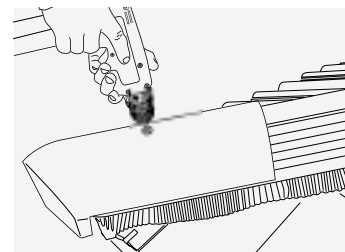

Fig. 10 – Fixing Block End Hip tile
- 9 Fit a purpose designed Block End Hip tile tight against eaves tiles and trim the Block End if required. Fix Block End Hip tile through HipFast Hip Support Tray to hip batten using 75mm x 4.8mm screw and sealing washer provided. Tighten securely to ensure a firm seal (Fig. 10). For Maxima, Melodie or Lincoln clay interlocking tiles, see pages 79-110.